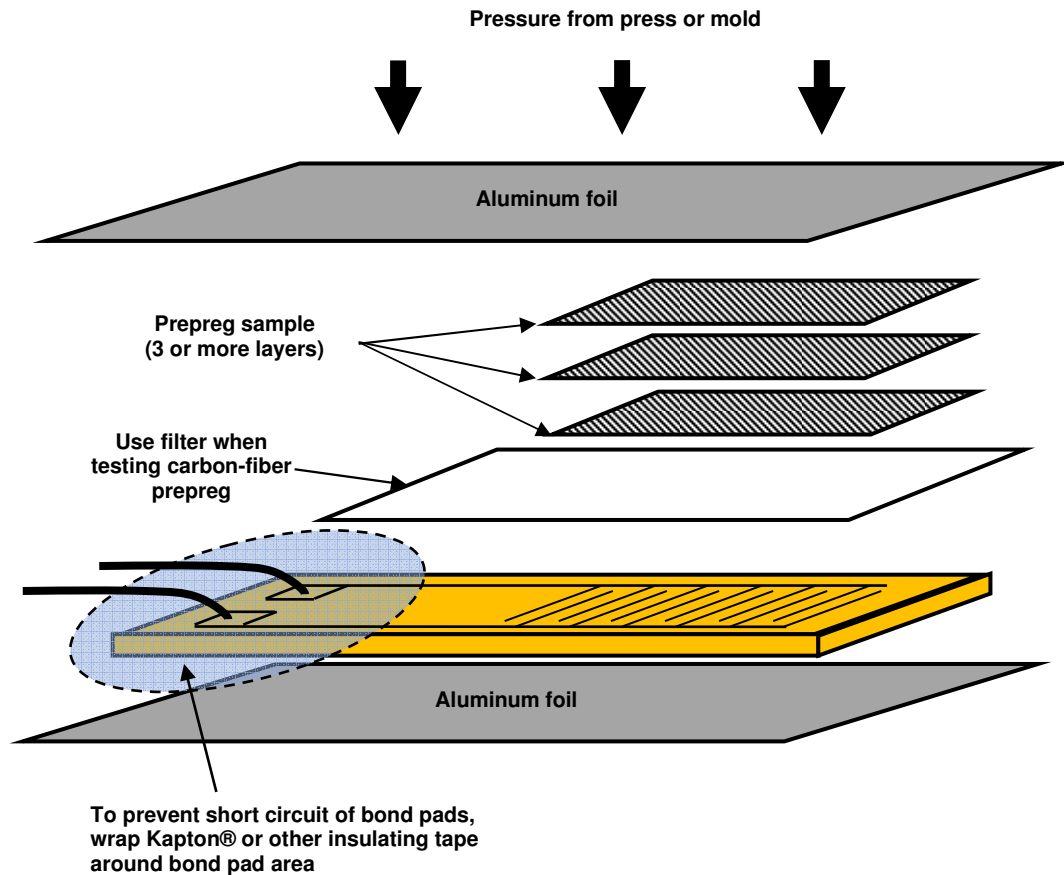

Figure 12-4
- Do use a filter between the sensor and materials containing graphite or conductive fibers, as shown in Figure 12-4
- Do use aluminum foil or release film above and below the lay-up, as shown in Figure 12-4, to prevent the sample from adhering to platen or mold surfaces